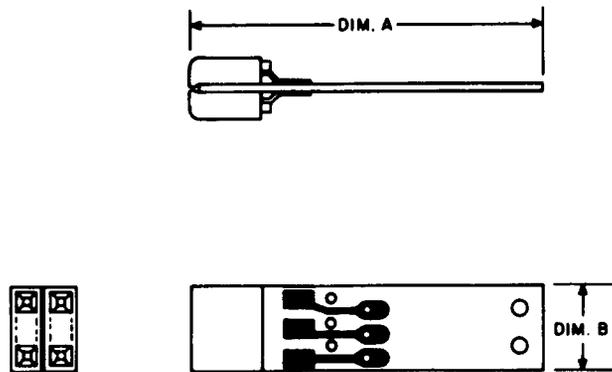

Fig. 16—982-Type Connector
2.12 982-Type: The 982-type connectors (Fig. 16) consist of two 963J-type connectors (except 963J-10 and 963J-10-8) bonded to and terminated on a paddleboard. The paddleboards are designed to terminate discrete wires, flat cable, and components, or provide for specific interconnections. For more information, see Table C.